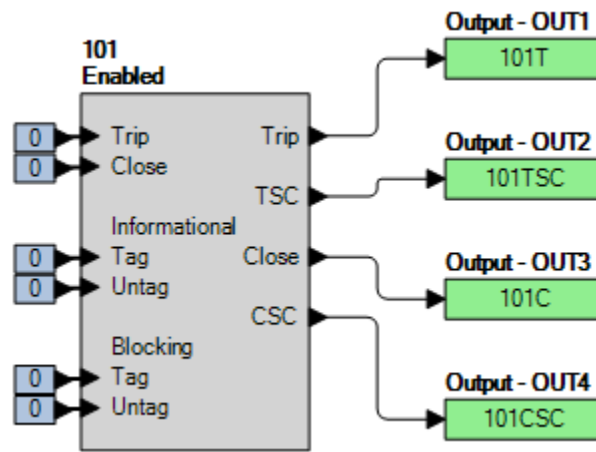

Figure 77-1. BESTlogicPlus Settings
Step 2: Use BESTCOMSP $l$ us to configure the BESTlogicPlus Programmable Logic shown in Figure 77-1.